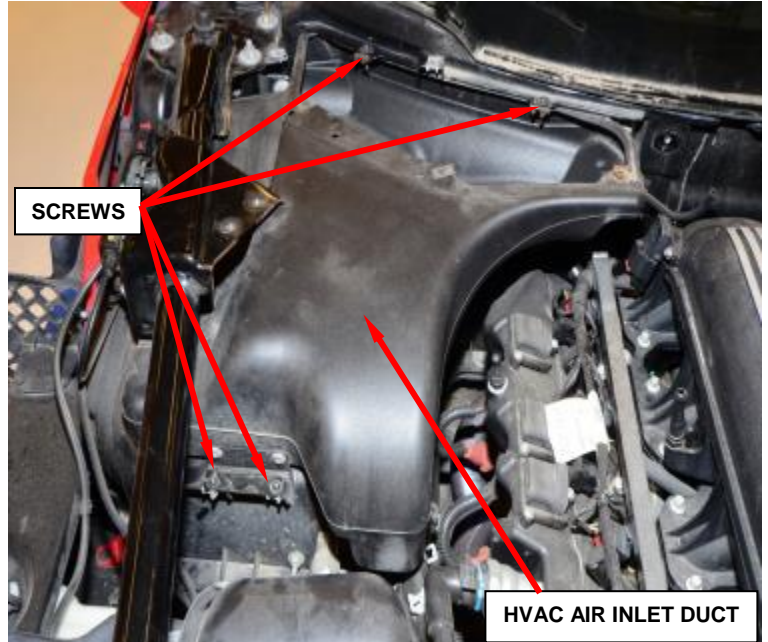

Figure 31 – HVAC Air Inlet Duct
38. Remove the four screws securing the HVAC air inlet duct and remove the HVAC air inlet duct (Figure 31).